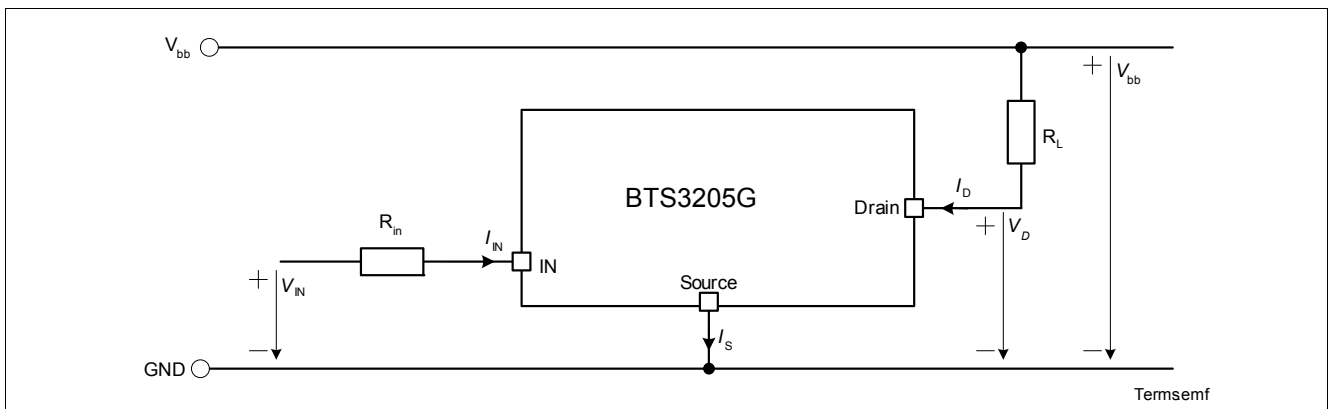

Figure 2 Terms
**Figure 2** shows all external terms used in this data sheet.